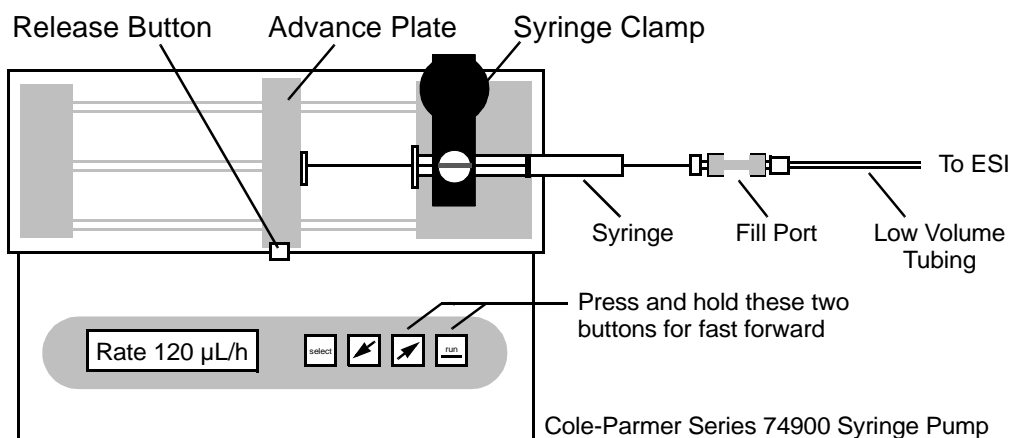

Figure 6-2 Syringe Pump Controls
2. Connect the syringe with the sample inlet of the off-axis sprayer using low volume, clean tubing and fittings (Figure 6-2).
- Press the release button on the front of the drive plate and advance the plate so that it rests against the syringe plunger (Figure 6-2).